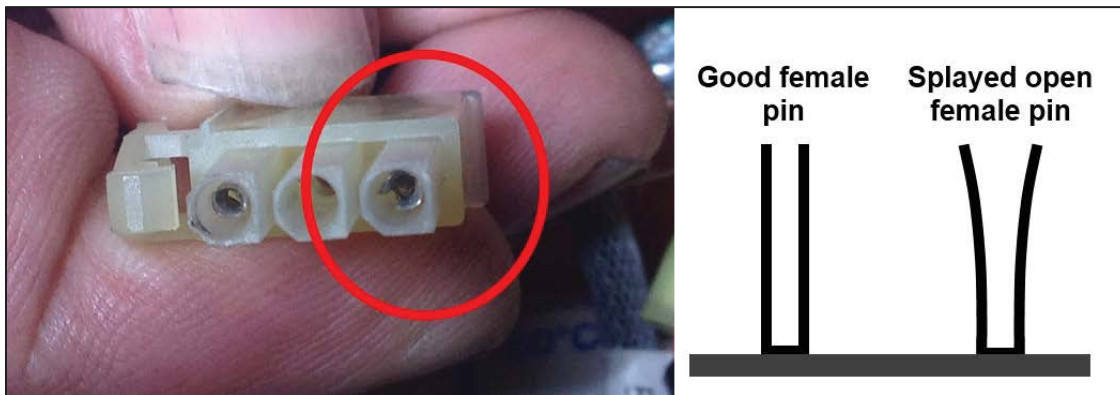

Figure 14
- **Subsystem:** High voltage junction box reed switch connector into charger (Figure 14).
- **Diagnostic for Service:** Unplug the connector from the charger and closely examine the female pins. If a pin is not completely round, it is bad (Figure 14). Affected connectors have currently been found on vehicles ranging from VIN P09968 to P11256.